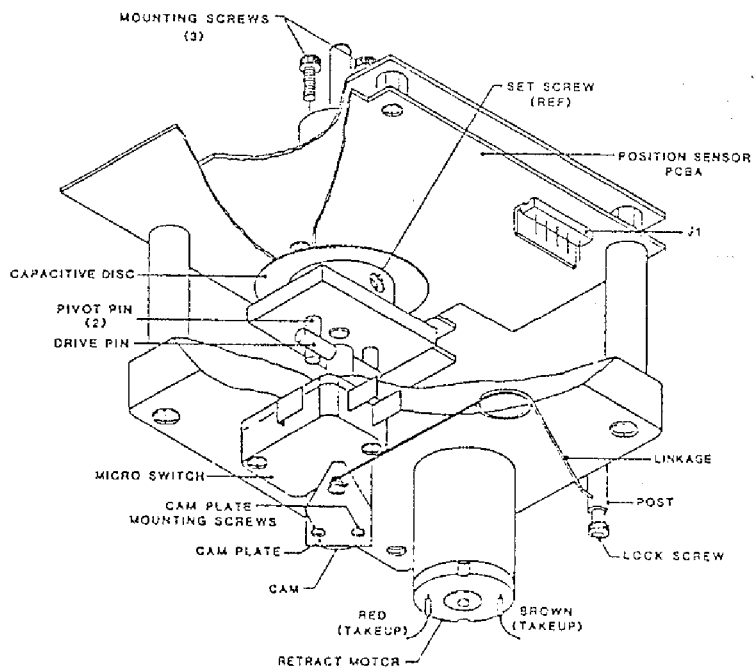

Figure 5-8. Take-up Arm Retract and Pivot Sensor Assembly
5.3.10 RETRACT AND PIVOT SENSOR ASSEMBLIES, TAKE-UP ARM AND SUPPLY ARM (Fig. 5-8)